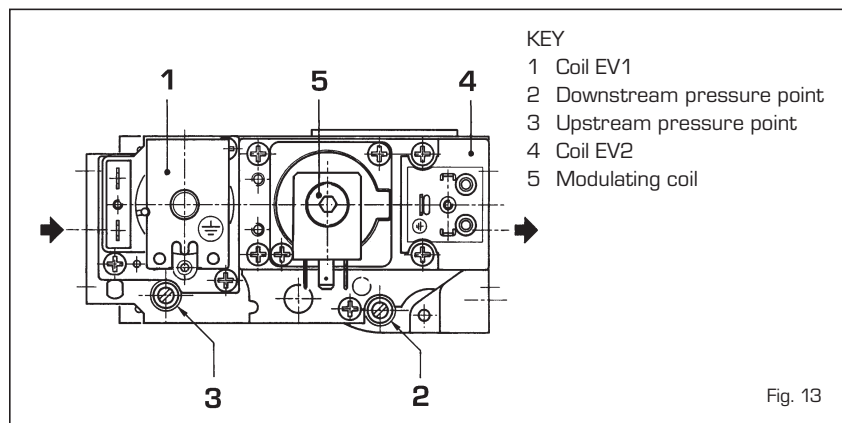

Fig. 13
"26/80 CE IONO" boilers are supplied with a HONEYWELL VR4605CA gas valve, complete with a coil group screwed directly onto the pressure regulator (fig. 13). The gas pressure is calibrated by SIME on the production line at a pressure value that allows for a heating power of about 22.5 kW. To
To calibrate the sanitary water pressure, carry out the follow instructions (fig. 13/a):
To calibrate the heating pressure, carry out the follow instructions (fig. 13/a):
- On the vers. "26/80 CE IONO", loosen the nut of the modulating coil (1 fig. 13/a) and screw up tightly the coupling (3 fig. 13/a). Tighten the nut (1 fig. 13/a) and adjust the pressure entering the valve to 30/35 mbar, depending on the type of gas, by means of the pressure reducer outside the boiler; at this point the calibration of the sanitary water is completed. To regulate the heating power to the effective power requested by the plant, follow the instructions in 4.3.2.